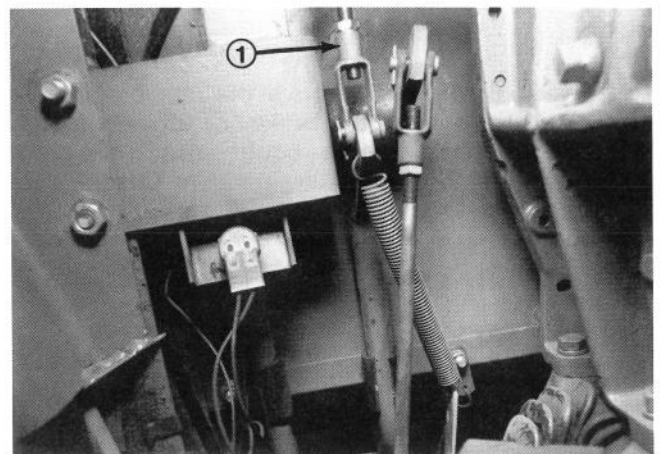

Figure 89
3. Adjust the clevis so a turbulence can be seen in the fluid when the brake pedal is making its return stroke. This will make sure that the piston is making its full return stroke (Fig. 89).